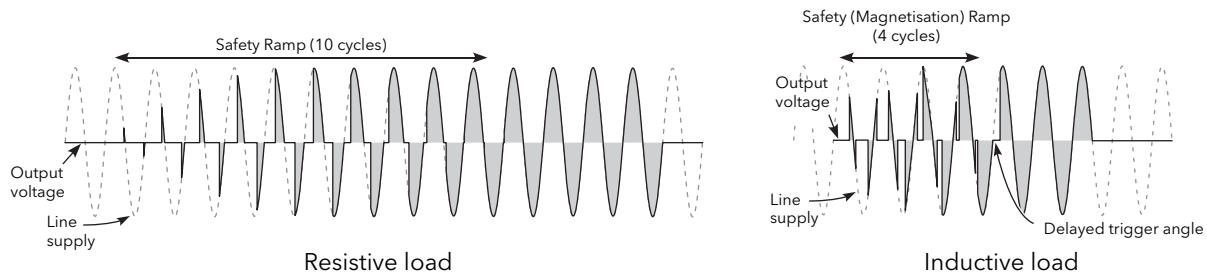

Figure 84 Safety ramp (burst firing) examples
- Safety Ramp** Displays the safety ramp duration, in supply voltage cycles (0 to 255), to be applied at startup. The ramp is either a phase angle ramp from zero to the requested target phase angle or, for Burst Firing, ranges from 0 to 100%, see Figure 84. Safety Ramp is not applicable to Intelligent Half cycle (IHC) Mode.